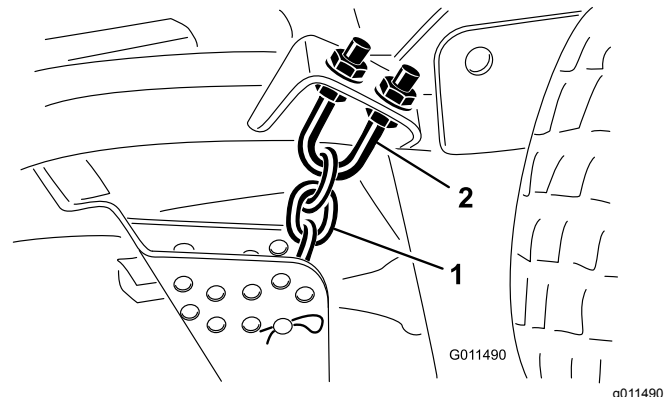

Figure 104
1. Loosen the jam nuts on the top or bottom of the height-of-cut chain U-bolt (Figure 104).